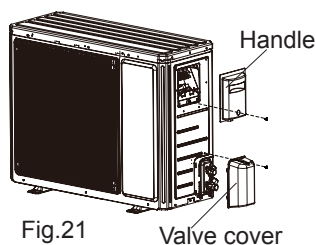

Fig. 21
- (1) Remove the screw on the handle and valve cover of outdoor unit and then remove the handle and valve cover.(As show in Fig.21)